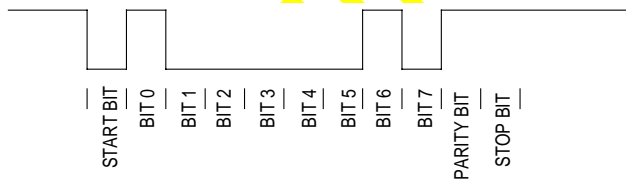

Figure 11-2. NRZ ASCII “A” Character with Odd Parity
The UART module has two operating modes—NRZ and infra-red. NRZ mode is usually associated with RS-232. Each character is transmitted as a frame delimited by a Start bit (0) at the beginning and a Stop bit (1) at the end. Data bits are transmitted least -significant bit first and each bit is presented for a full bit time. If parity is used, the parity bit is transmitted after the most-significant bit. Figure 11-2 illustrates an 8 bit ASCII “A” character (41 hex) with odd parity.